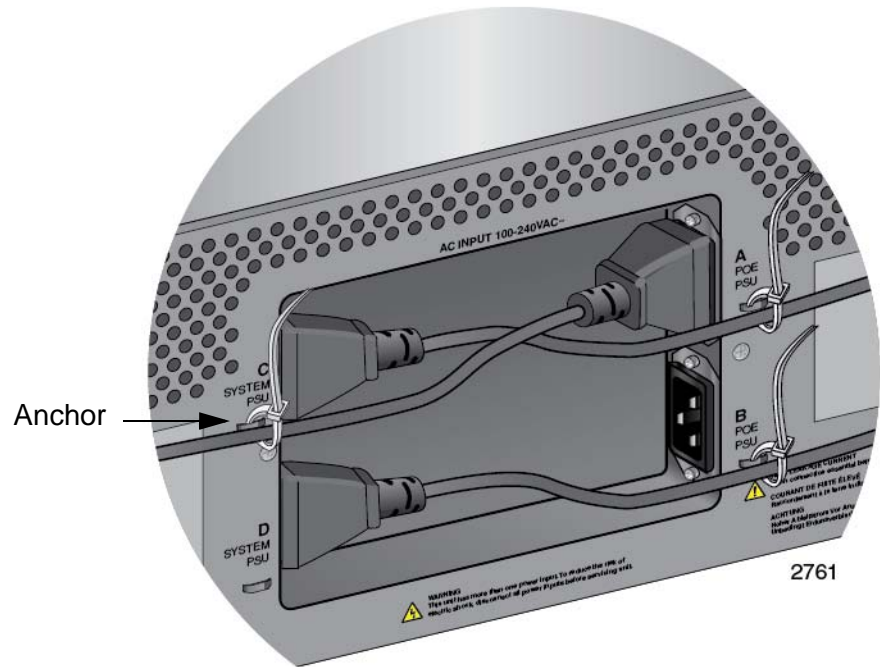

Figure 111. Securing the Power Cord for the AT-SBxPWRPOE1 Power Supply to an Anchor
3. Use the twist tie that comes with the power supply to secure the cord to an anchor on the chassis, as shown in Figure 111.